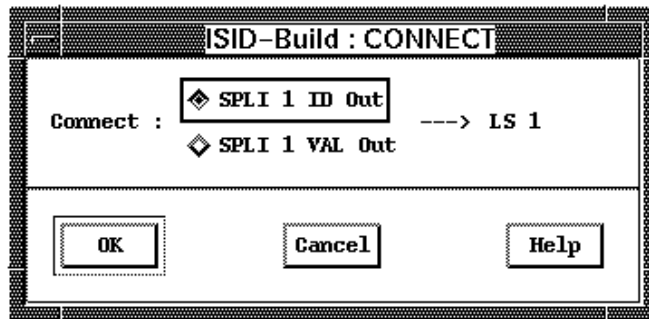

Figure 3.11 The “CONNECT” window enables you to make connections after you have opened an algorithm.
- To make a new connection between (say) algorithm A and B, select algorithm A and then select algorithm B (note that you can deselect the selected algorithm by clicking in the background of the Chain Plot). After you have selected algorithm B the “CONNECT” window will pop up (Figure 3.11). This window describes the connection you have just selected. The selected connection is also highlighted in the Chain Plot for clarity.